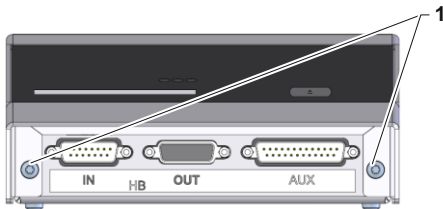

Fig. 1: Front side of the evaluation unit
- Remove screws (Label 1 → Fig. 1).